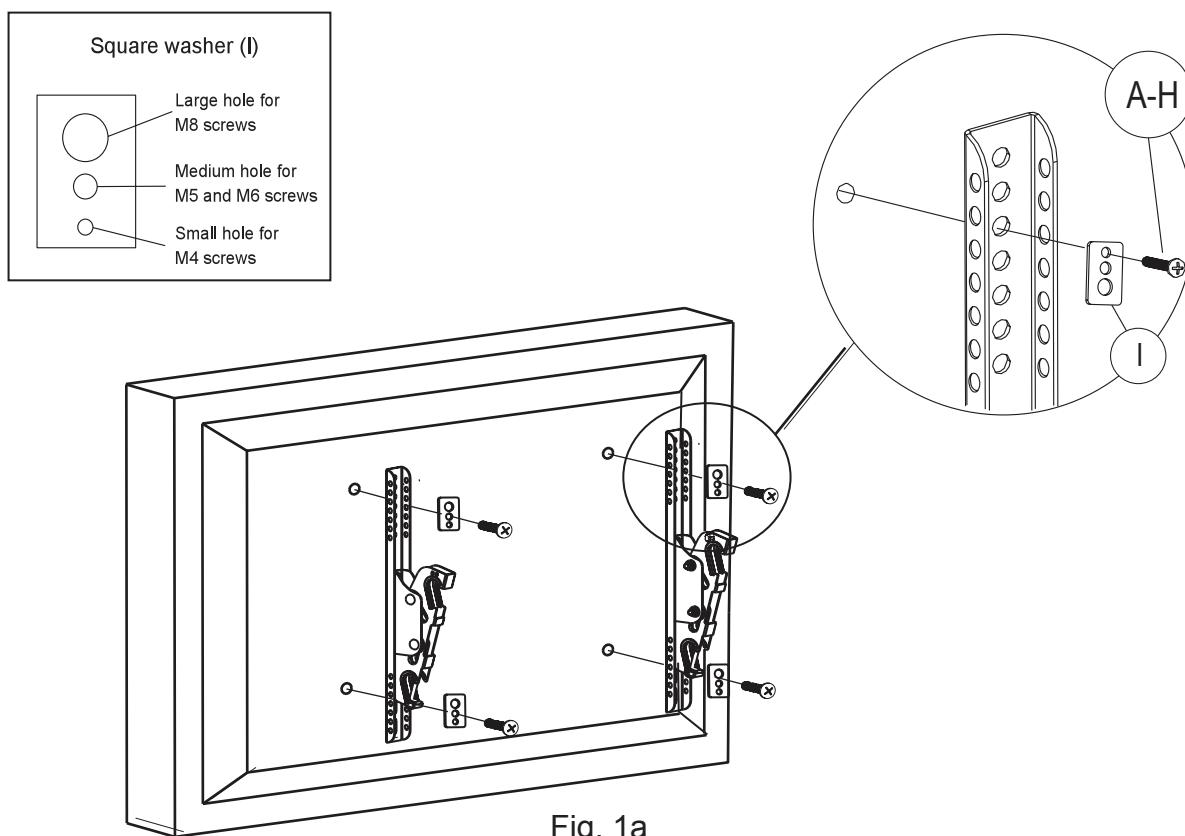

Fig. 1a
If your television has a straight back, spacers are not required. Use the selected bolts (A-H) and square washers (I) to install the bracket directly on the back of the television as shown in Fig 1a. Make sure that the two brackets are equal in height and are level. Once the brackets are aligned, securely tighten the bolts. If necessary, use additional washers (N, O) to make sure the bolts (A-H) keep the bracket snug to the rear of the TV without over tightening.
If your television has a curved back and mounting holes are recessed (Fig 1a) spacers are required. Install the spacers (M) between the display and the bracket as shown in Fig 1b. Then, use the appropriately selected bolts (A-H) applicable to your TV and the square washers (I) to install the brackets with spacers to the back of the television. Make sure that the two brackets are equal in height and are level. Once the brackets are aligned, securely tighten the bolts (Fig 1b). If necessary, use additional washers (N,O) to make sure the Bolts (A-H) keep the brackets snug to the rear of the TV without over tightening.